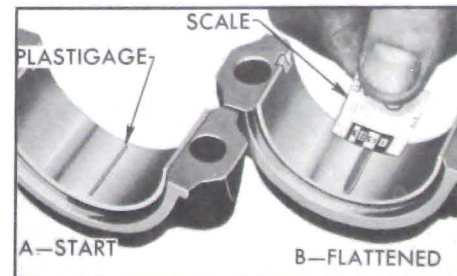

Figure 2-49—Checking Bearing Clearance With Plastigage
2. Place a piece of Plastigage lengthwise along the bottom center of the lower bearing shell (Figure 2-49, View A), then install cap with shell and tighten bolt nuts to 30-35 ft. lbs. torque. NOTE: The rib on edge of cap and the conical boss on web of rod must be toward rear of engine on all rods in left bank and toward front of engine in right bank.
flattened Plastigage at its widest point. The number within the graduation which most closely corresponds to the width of Plastigage indicates the bearing clearance in thousandths of an inch. See Figure 2-49, View B.